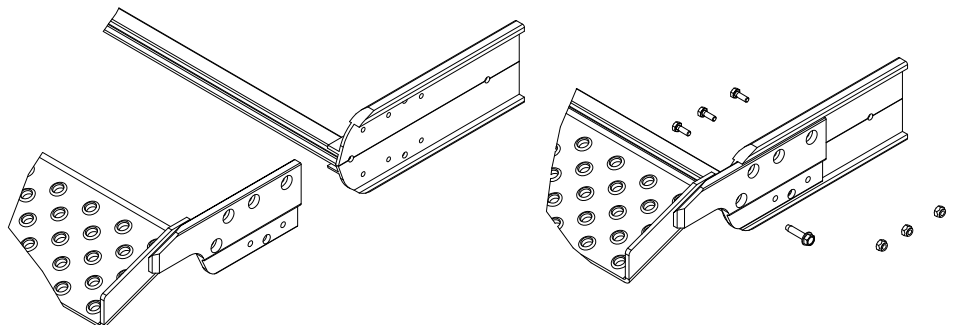

FIG. 3
- b. Install new tie rod then slide new apron onto end of ramp (see Fig. 3). You may need to tap it lightly with the rubber mallet if it is a tight fit.